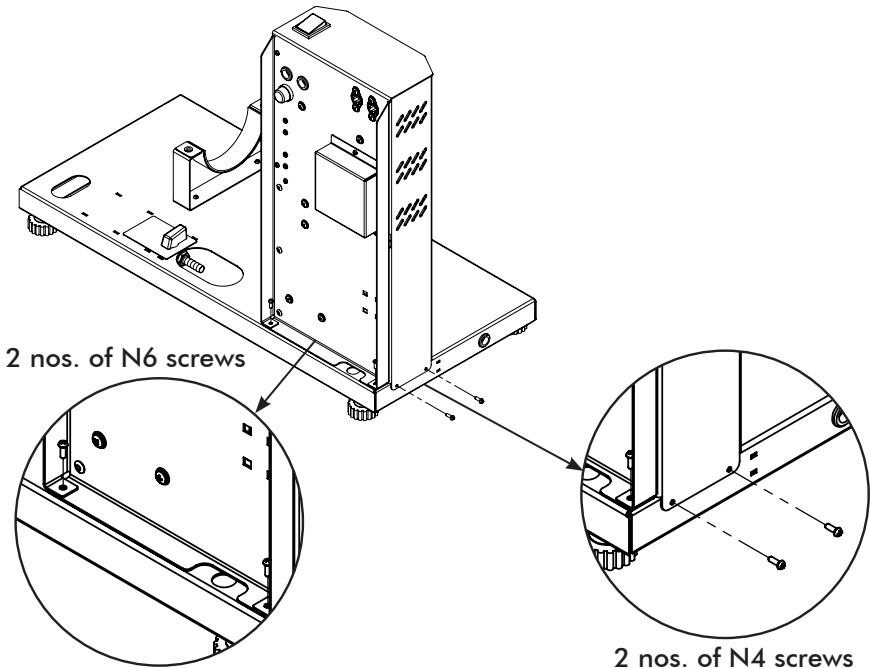

Fig 18.2 Controller box screwing
3. Fix the panel with the provided screws with the unit as shown in (fig.18.2)